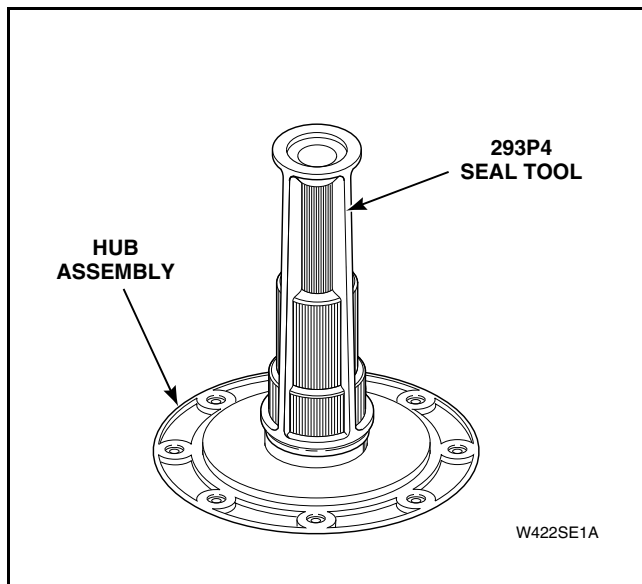

Figure 35
- q. Place new drive bell seal onto hub and carefully push into position using large end of No. 293P4 Seal Tool. Refer to *Figure 35*.